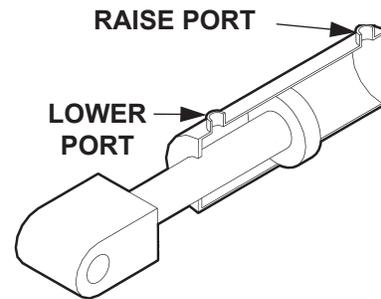

FIG. 51-1
5. Check the hydraulic cylinder. With the platform on the ground, remove the hydraulic line from the lower port of the cylinder (**FIG. 51-1**). Raise the platform even with the bed. Allow pump motor to run two seconds more while you watch for hydraulic fluid at the lower port. A few drops of hydraulic fluid escaping the port is normal; however, if it streams out, piston seals are worn. Replace seals.